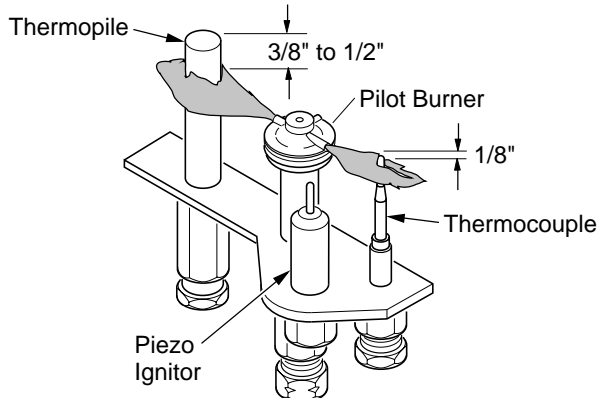

Figure 54 - Pilot Assembly
- 2b. Press the AUTO/ON/OFF button on the hand-held remote control (see Figure 54). The lights to the left of the button will show AUTO, ON, or OFF.